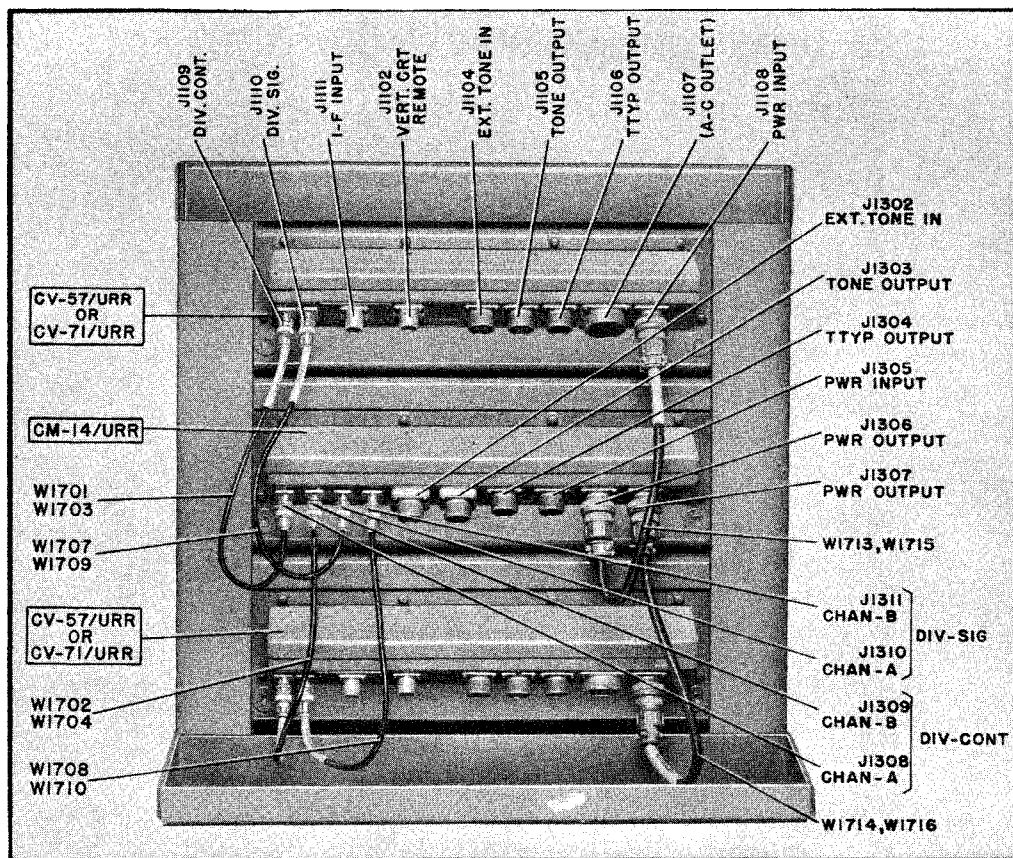

Figure 3-14. Frequency Shift Converter-Comparator Group AN/URA-6 and AN/URA-7, Rear View
(2) **CONVERTER-TO-COMPARATOR CABLES.**—Connect the six cables supplied with the equipment (Figure 3-14) as follows: (The first cable symbol number given is for the AN/URA-6 equipment; the symbol number in parentheses is for the AN/URA-7 equipment):